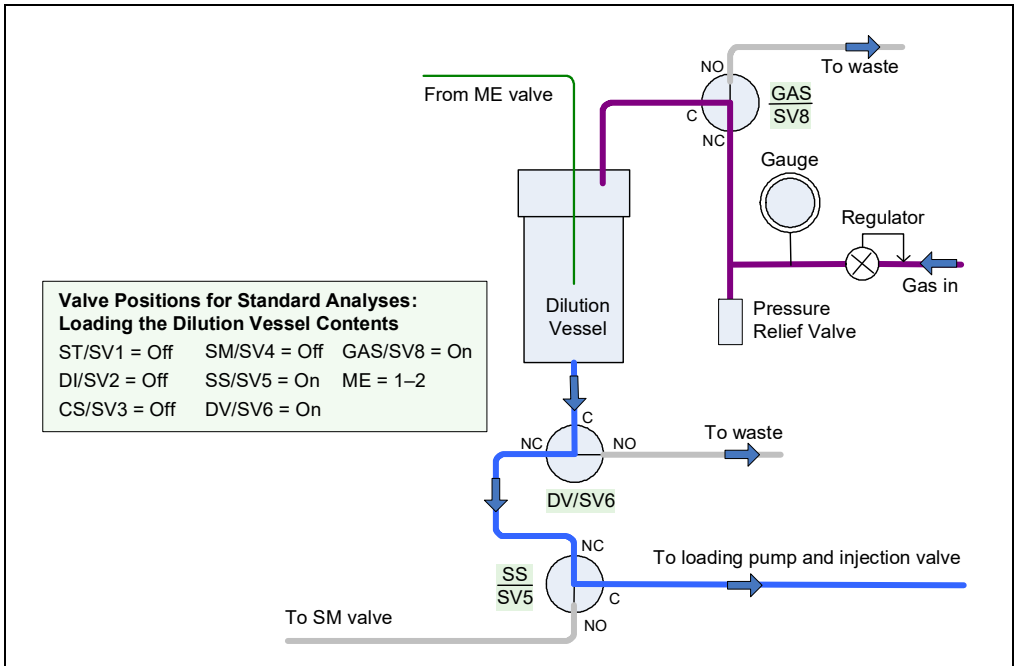

Figure 3-19. Analyzing Calibration Standards
- Step 3: Purging the diluted standard from the dilution vessel and loading it to the injection valve (see Figure 3-19).
- Step 3: Purging the diluted sample from the dilution vessel and loading it to the injection valve. This step is also performed when the calibration standard is analyzed (see Figure 3-19).